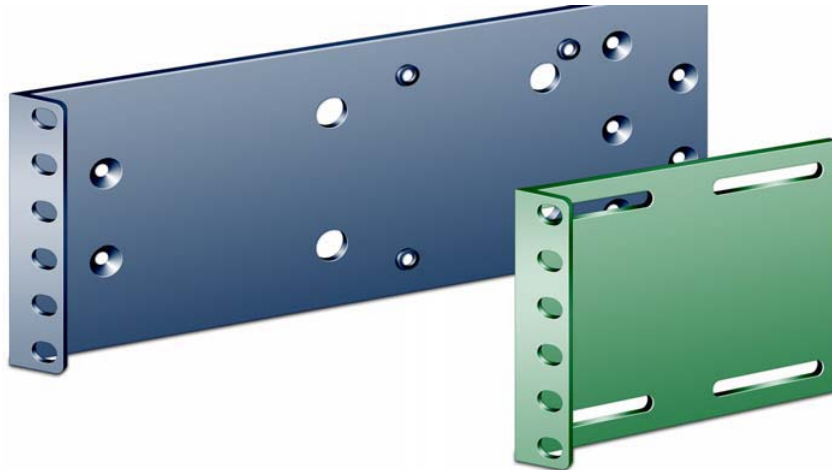
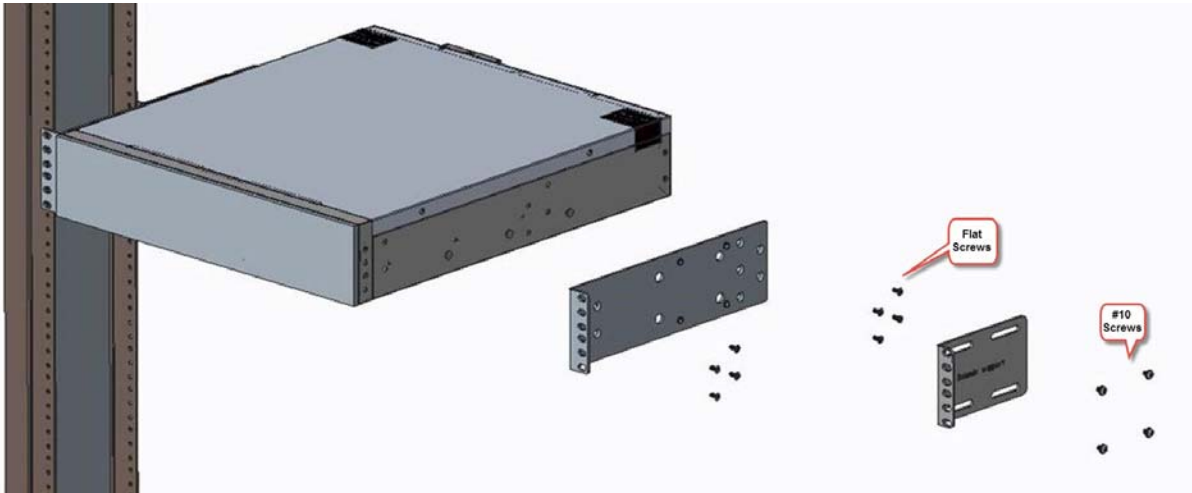

Figure 1-1 2U NEBS-compliant front-mount bracket (left, blue) and optional seismic bracket (right, green)
Figure 1-2 2U chassis with front mounting in a two-post rack
1. Align the two front rack-mounting brackets (the larger, blue bracket shown in Figure 1-1) to the chassis holes according to your front mount requirements.
NOTE: NEBS-compliant brackets for a 1U device are proportionally smaller than the ones in Figure 1-1.
Use Figure 1-2 as a guide for how the front rack-mounting brackets are attached to the appliance and to the rack in a front mount.
4. For extra support against seismic vibrations, you can secure an additional bracket (the smaller bracket shown in Figure 1-1 and Figure 1-2) to each of the rack-mounting ears.